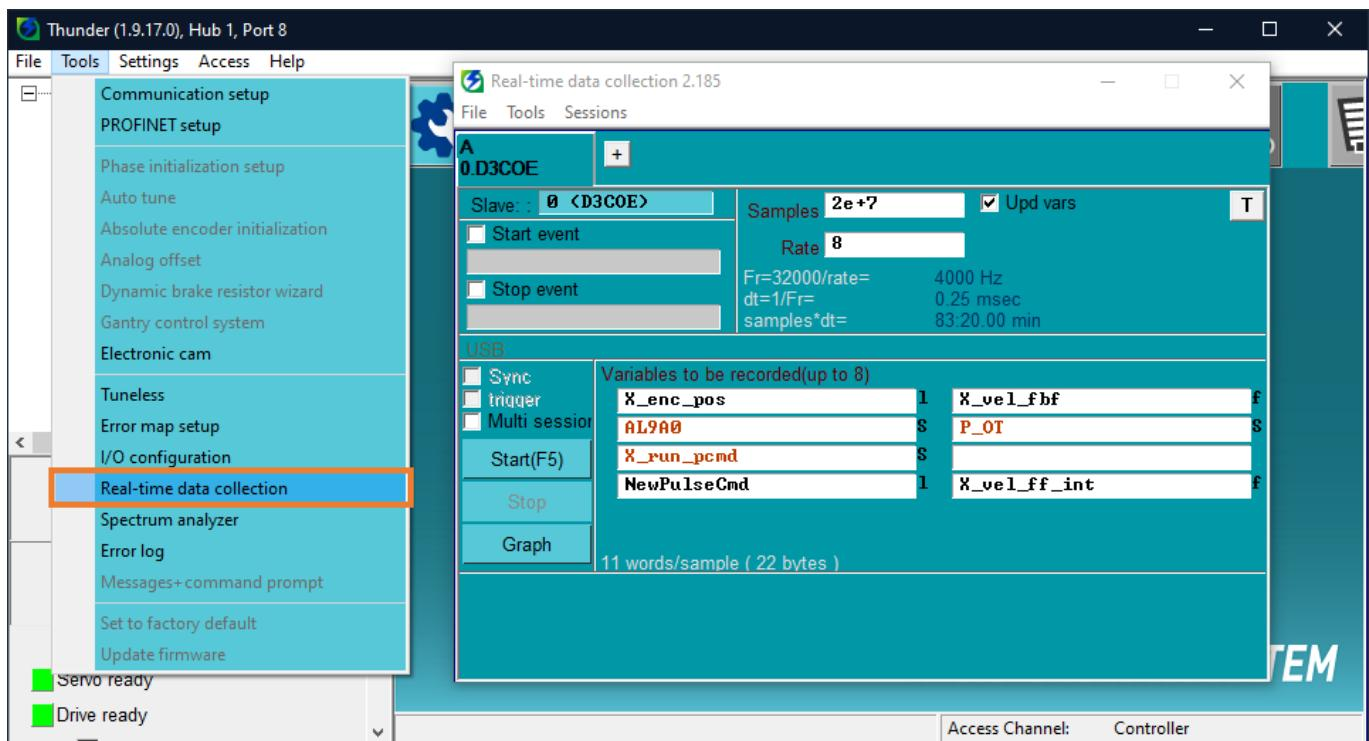
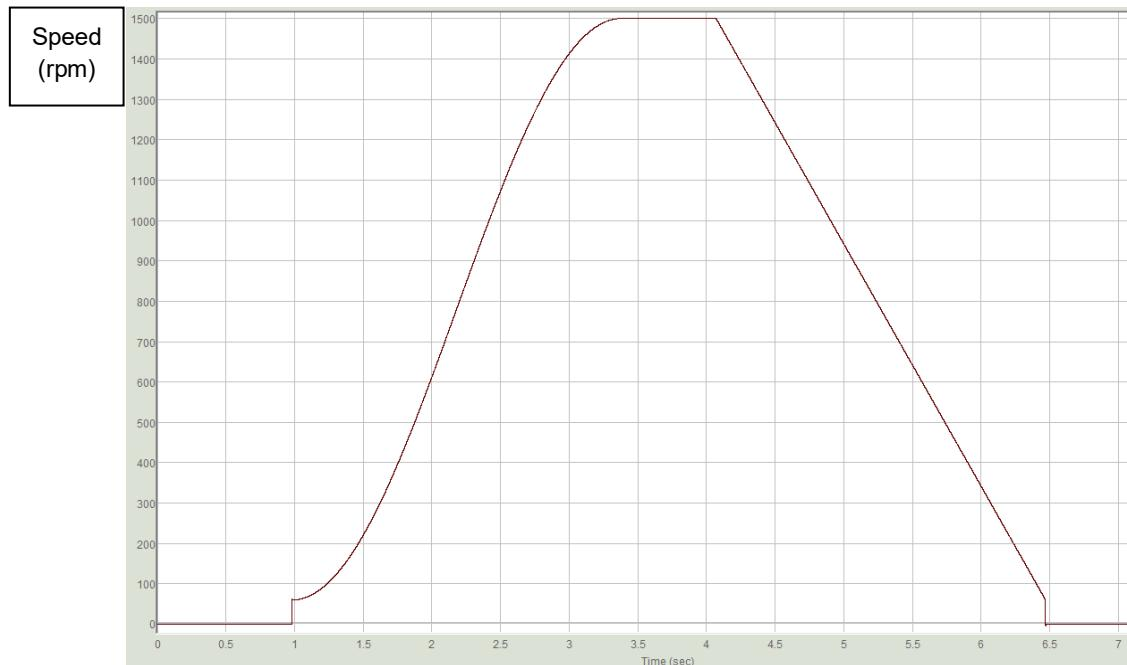

Figure 3.3.2
Figure 3.3.4
4. Open Thunder→ **Real-time data collection**, click **Stop** and then click **Graph** (refer to Figure 3.3.2) to generate Figure 3.3.4.